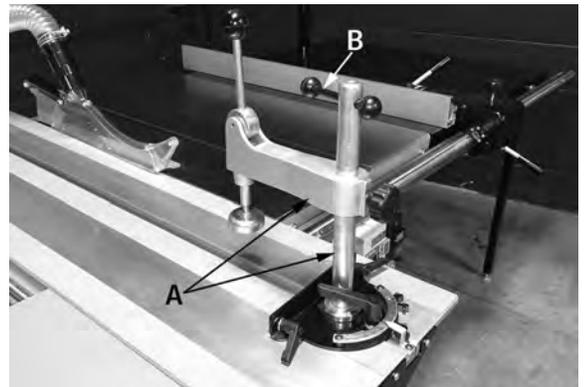

FIGURE 39
1. The sliding table hold-down (A) Fig.39 get installed in the sliding table t-slot as shown. Once installed, tighten the top handle (B) to secure the assembly to the sliding table.